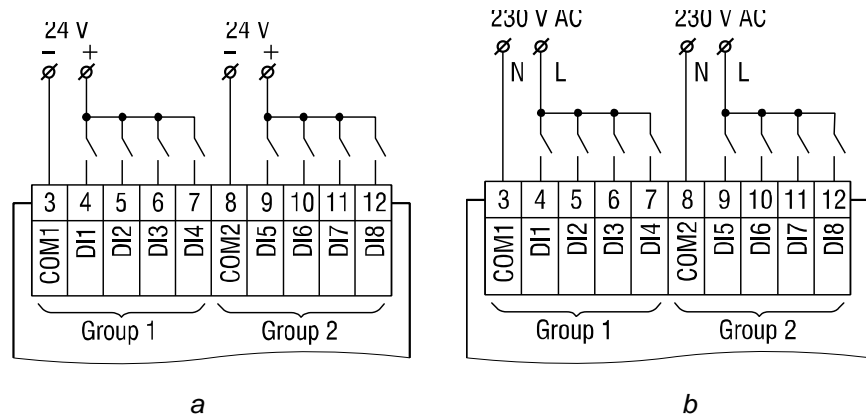

Fig. 7.2 Connecting switch contacts to digital inputs: a) PR200-24, b) PR200-230
- Electrical connections for inputs and outputs are given in Fig. 7.2 – 7.7